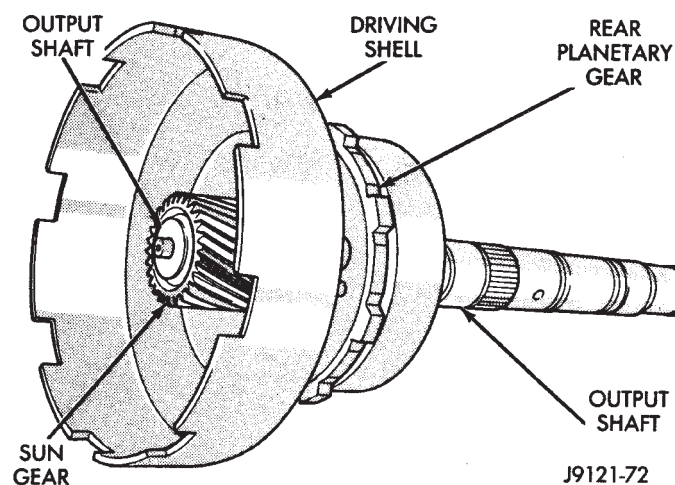

Fig. 83 Installing Sun Gear And Driving Shell—46RH
(7) Lubricate sun gear bushings with petroleum jelly or transmission fluid.
(8) Install sun gear and driving shell on output shaft (Fig. 83). Seat shell against rear planetary gear. Verify that thrust washer on planetary gear was not